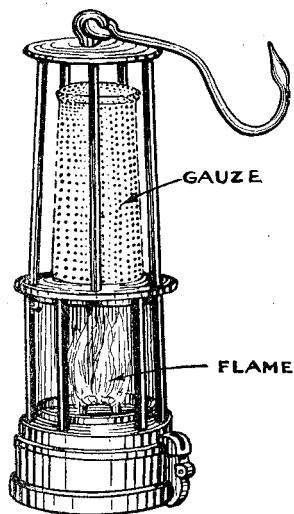

FIG. 135.—The Davy Safety-Lamp in Operation.
**How the Davy Safety-Lamp Works.** Sir Humphrey Davy invented a safety-lamp, so that when miners who carried it entered a shaft where there was methane ( $CH_4$ ), or *fire-damp*, as it is generally called, and which when mixed with air is very explosive, it would not ignite. His safety-lamp consists of a common oil lamp, the flame of which is surrounded by a wire gauze cover, as shown in Fig. 135. Now while enough oxygen ( $O$ ) will reach the flame to keep it burning, the flame cannot get outside of the gauze to ignite the explosive gases.